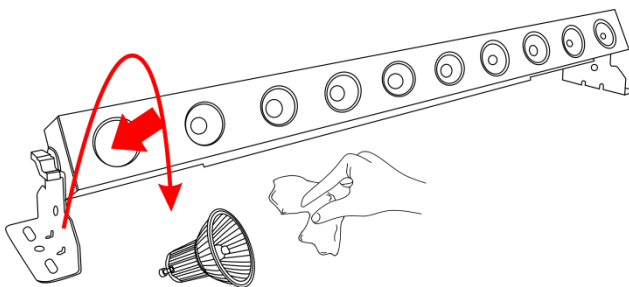

Fig.07
- 06) Insert the lamp pins into the small holes in the lamp socket. Push and turn clockwise to install the lamp (Fig. 07).